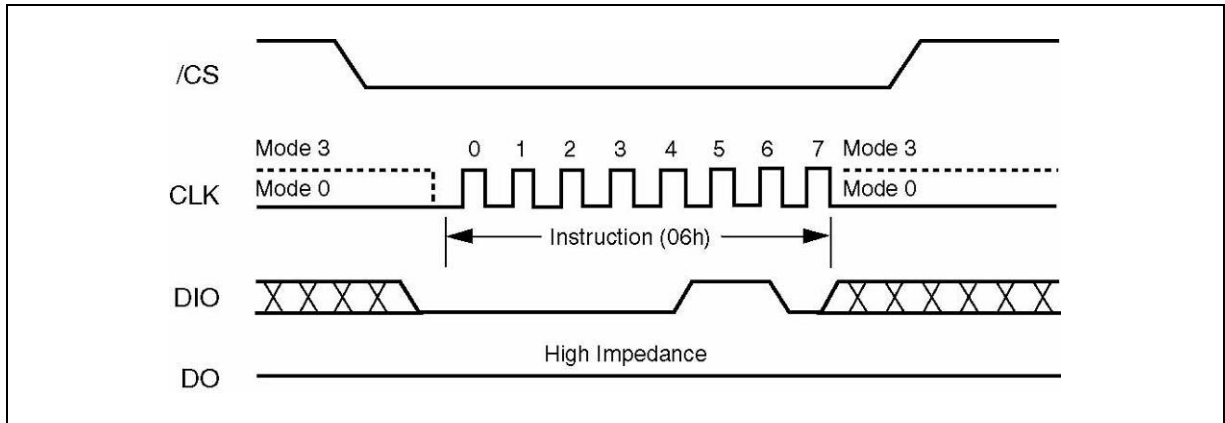

Figure 4. Write Enable Instruction Sequence Diagram
Instructions vary in length from a single byte to several bytes and may be followed by address bytes, data bytes, dummy bytes (don't care), and in some cases, a combination. Instructions are completed with the rising edge of edge /CS. Clock relative timing diagrams for each instruction are included in figures 4 through 19. All read instructions can be completed after any clocked bit. However, all instructions that Write, Program or Erase must complete on a byte boundary (CS driven high after a full 8-bits have been clocked) otherwise the instruction will be terminated. This feature further protects the device from inadvertent writes. Additionally, while the memory is being programmed or erased, or when the Status Register is being written, all instructions except for Read Status Register will be ignored until the program or erase cycle has completed.
The Write Enable instruction (Figure 4) sets the Write Enable Latch (WEL) bit in the Status Register to a 1. The WEL bit must be set prior to every Page Program, Sector Erase, Block Erase, Chip Erase and Write Status Register instruction. The Write Enable instruction is entered by driving /CS low, shifting the instruction code "06h" into the Data Input (DI) pin on the rising edge of CLK, and then driving /CS high.